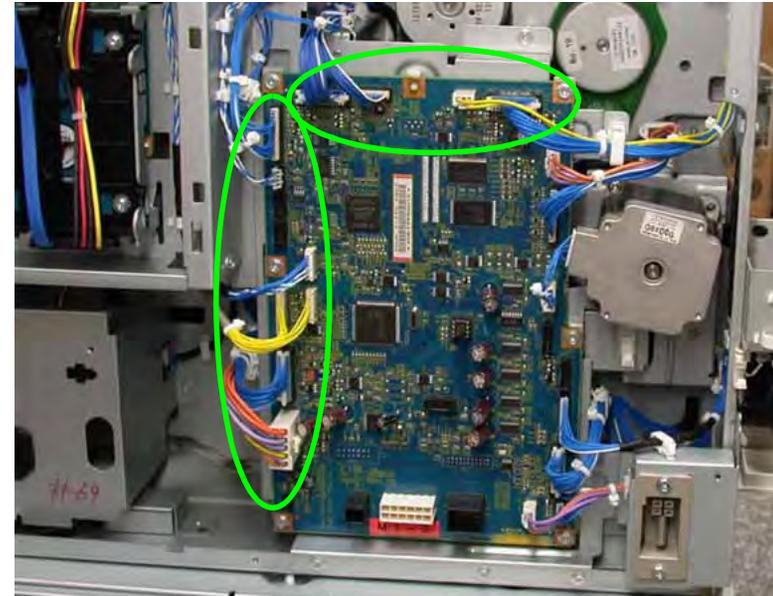

Figure 3 PJ's
5. Disconnect the connectors on the Top and Right side of the MCU PWB, and release the wire harnesses from the clamps (Figure 3).